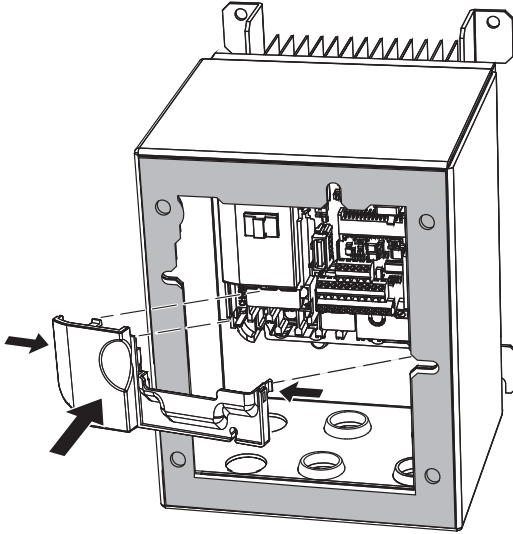

Figure 26 Reattach the IP66/UL Type 4X Lower Terminal Cover
- 26.** For IP66/UL Type 4X enclosure models, reattach the lower terminal cover, (on certain models), to the drive by aligning the left and right tabs and snap into place (see Figure 26).